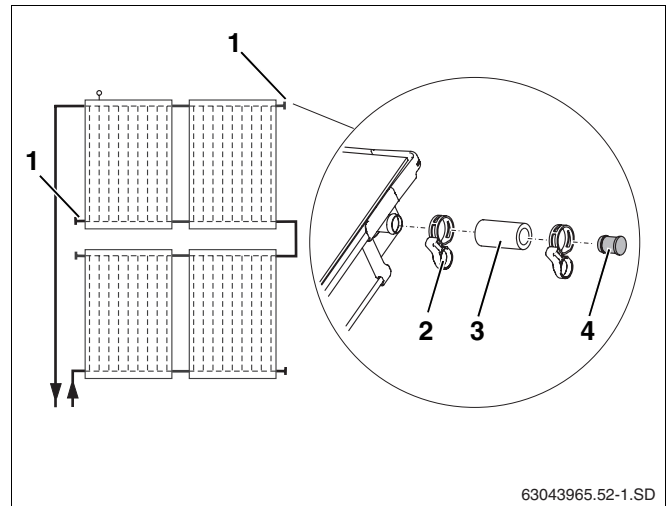

Fig. 40 Fitting the preassembled dummy plugs
Use the dummy plugs to close up any collector connections not in use (Fig. 40, **Item 1**).
- ▶ Place 55 mm solar hoses (Fig. 40, **Item 3**) together with the preassembled dummy plugs onto the two free connections.